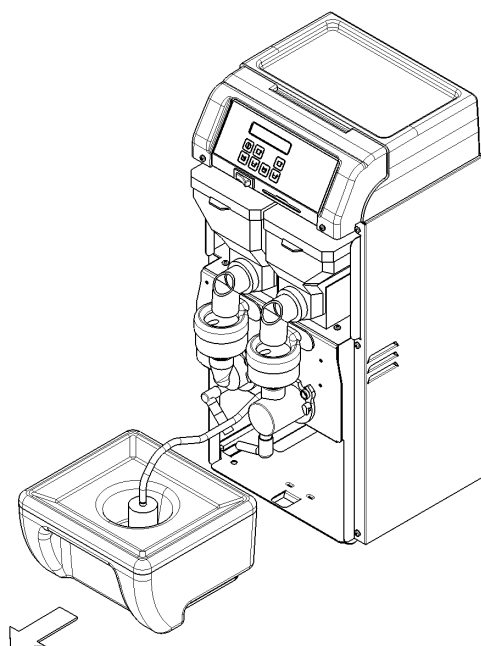

figure 2
**3** Extract the water tank, located in the lower part of the dispenser and fill it with mineral or potable tap water. Reinstall the tank taking care that the water filter is properly located into its housing. (see figure 2)